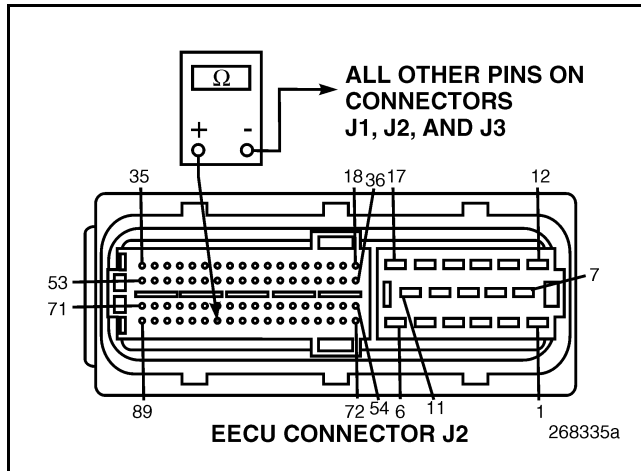

Figure 340
4. Check for continuity between EECU harness connector J2 pin 83 (ground line) and all other pins in EECU harness connectors J1, J2, and J3 (see Figure 340).